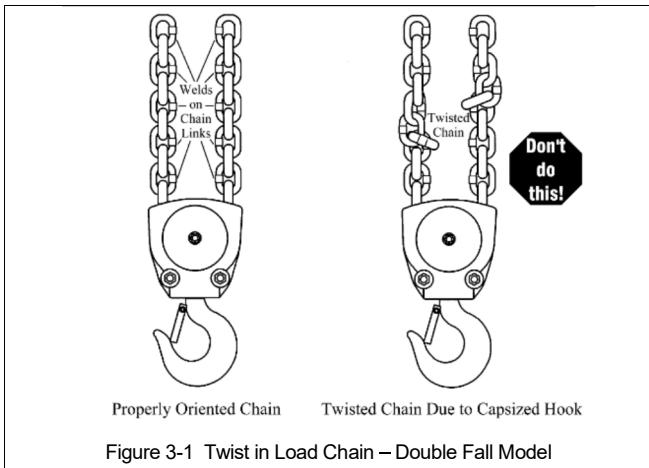

Figure 3-1 Twist in Load Chain – Double Fall Model
3.1.1 **NOTICE** Before use, the manual trolley can be adjusted in increments of 1/8" by simply inserting or removing adjusting spacers to fit a variety of beam flanges. To adjust the trolley, reference Figures 3-1 and 3-2. Proceed with the following instructions:
3.2.1 **WARNING** Verify that the load chain is not twisted or tangled prior to operating the hoist. Make sure the bottom hook on the 2 (NTH020) through the 5 (NTH050) Ton multiple fall hoists is not capsized. See Figures 3-1 and 3-2. Correct all chain irregularities before conducting the first hoist operation.
- 1) Remove the Shaft Stopper Pin from Suspension Shaft (See Figure 3-1).